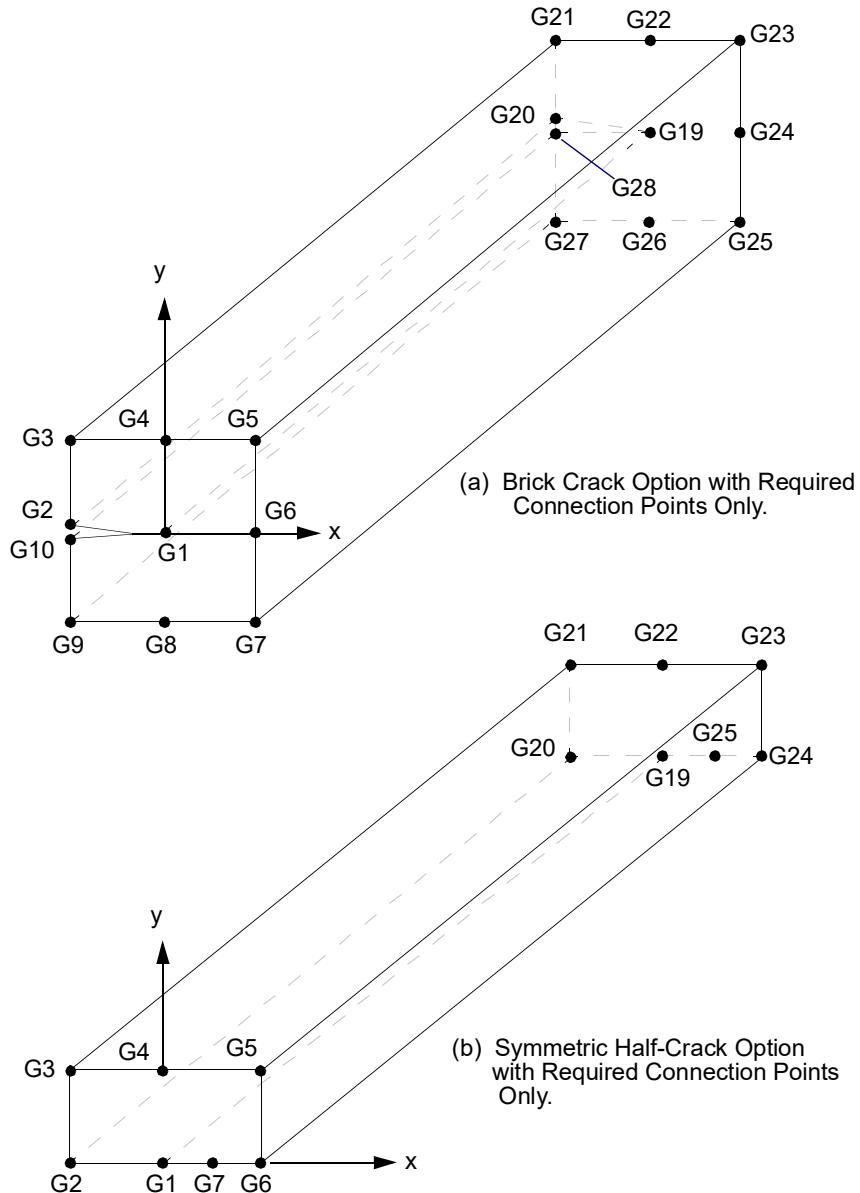
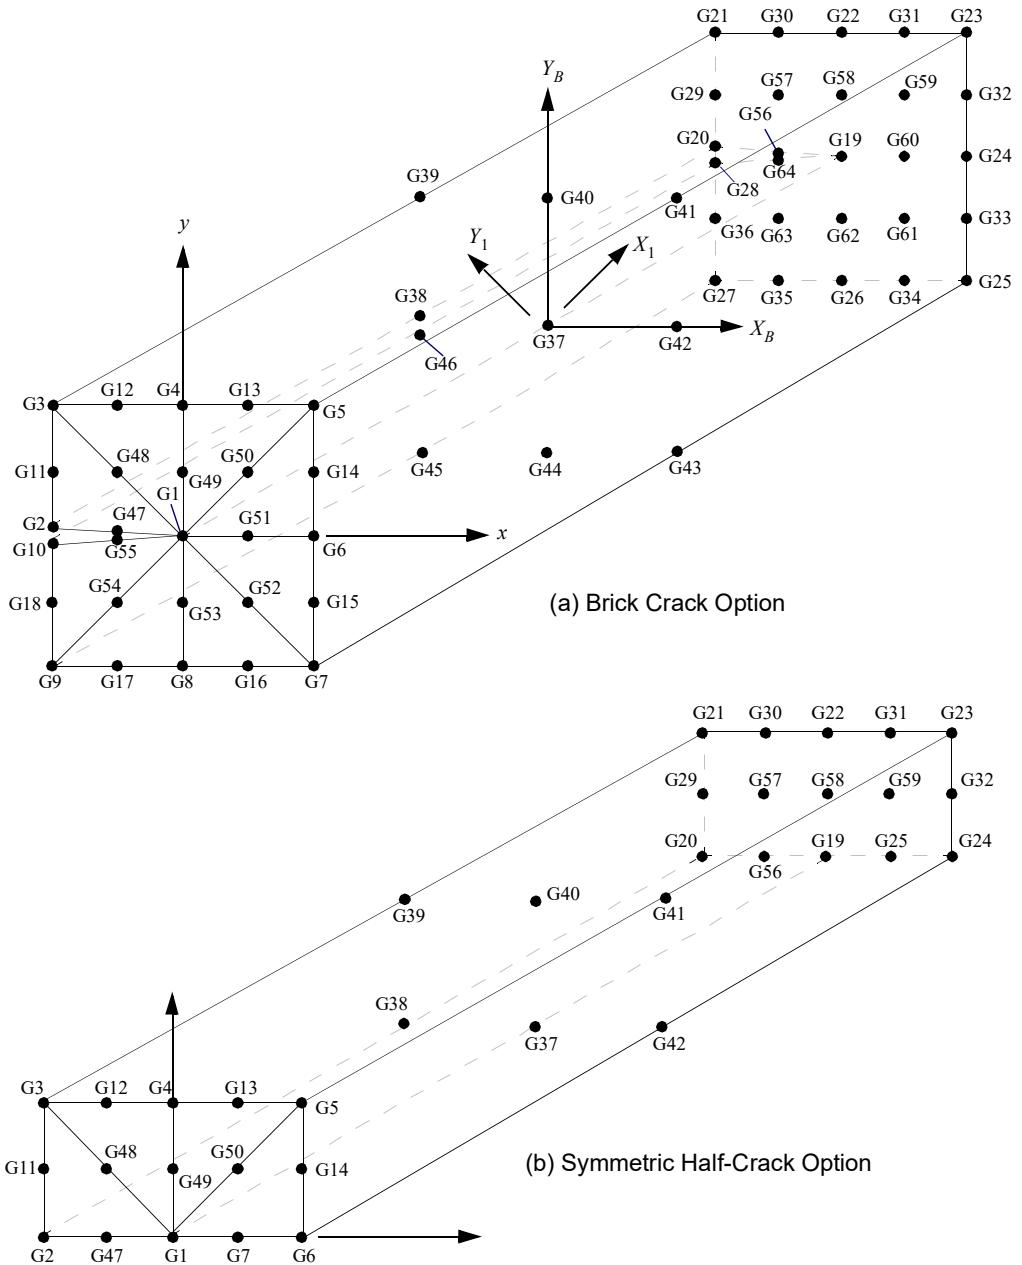

Figure 9-58 CRAC3D Solid Crack Tip Element with Required Connection Points Only
Figure 9-59 CRAC3D Solid Crack Tip Element with All Connection Points
3. This element, including grid point numbering conventions, is shown in Figure 9-58 and Figure 9-59. Grid points G1 through G10, and G19 through G28 are required; midside and surface grid points G11 through G18, G29 through G36, and G37 through G64 are optional. Either all or none of grid points G37 through G46 should be present. A fatal error message will be issued for partial connectivity.
4. The ratio of the element dimensions in the y to x axis shown for the element coordinate system in Figure 9-58 should be in the range 2.0 to 0.5.
10. As depicted in Figure 9-58 and Figure 9-59, the element is a right-handed element. Thus define the vectors $\overline{G1G9}$ and $\overline{G1G3}$, then the cross-product $\overline{G1G9} \times \overline{G1G3}$ points to the face defined by G19, G20, ...